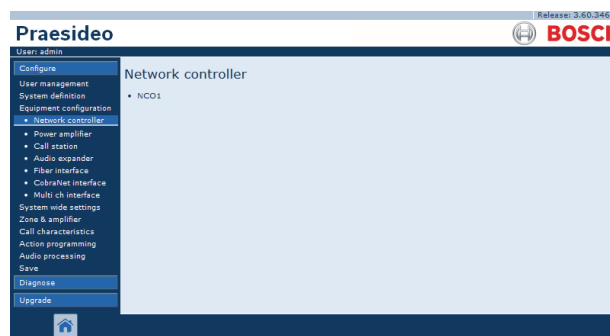

figure 44.2: Configure network controller, step 1
- 1 Go to *Configure > Equipment configuration > Network controller*. A screen similar to the one in figure 44.2 appears in the main frame of the web interface.